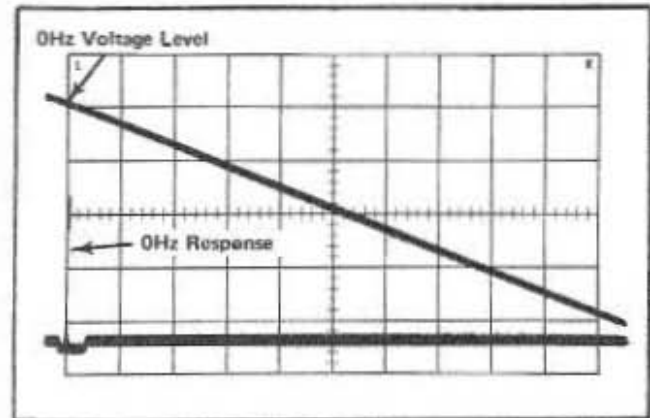

Fig. 6-12. Display when adjusting center frequency adjustment R550.
5) Switch the FREQ SPAN MHz/DIV selector to SEARCH position and adjust R550, Search CF, so the sweep sawtooth crosses 0 V at the 0 division line. See Fig. 6-12.